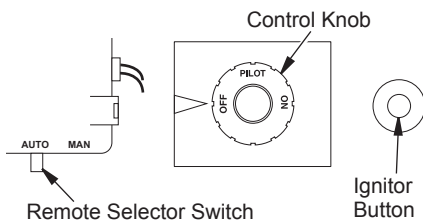

Figure 26 - Remote Selector Switch, Control Knob and Ignitor Button
4. Set remote selector switch in the AUTO position (see Figure 26).
5. Press in and turn control knob clockwise  to the OFF position (see Figure 26).
6. Wait five (5) minutes to clear out any gas. Then smell for gas, including near the floor. If you smell gas, STOP! Follow "B" in the safety information, page 17. If you don't smell gas, go to the next step.
7. Press in and turn control knob counter-clockwise  to the PILOT position. Press in control knob for five (5) seconds (see Figure 26).
Press on/off key on remote control and turn control knob clockwise to the OFF position (see Figure 26, page 18).
1. Turn control knob clockwise to the ON position (see Figure 26, page 18).